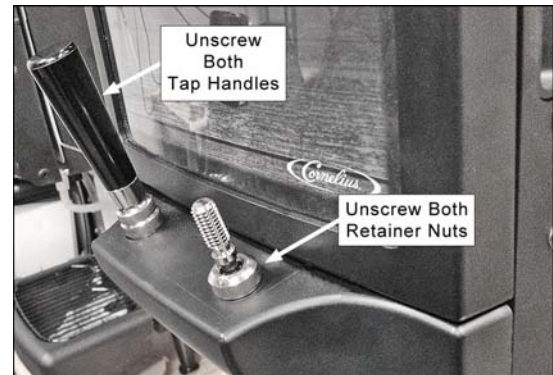

Figure 6-17 - Tap Handle/Microswitch Mounting
- 2) Carefully unscrew each tap handle from its activator-pin assembly (Fig. 6-17).